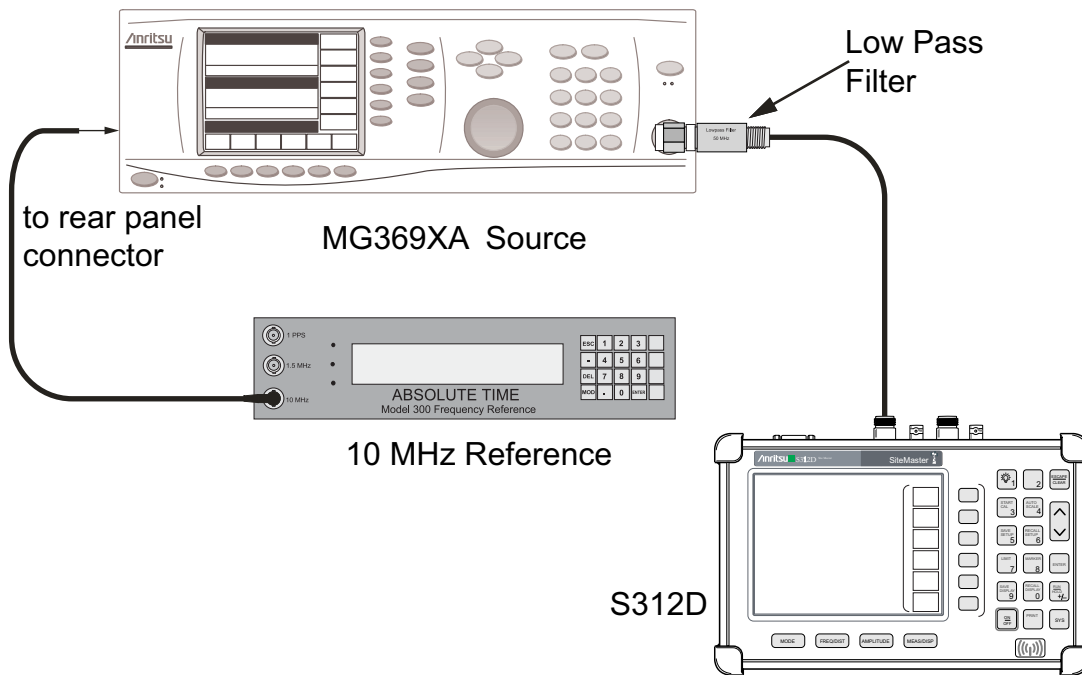

Figure 2-5. Input Related Spurious Response Verification Test Setup
1. Connect the 10 MHz reference source to the Synthesized Signal Generator as shown in Figure 2-5.